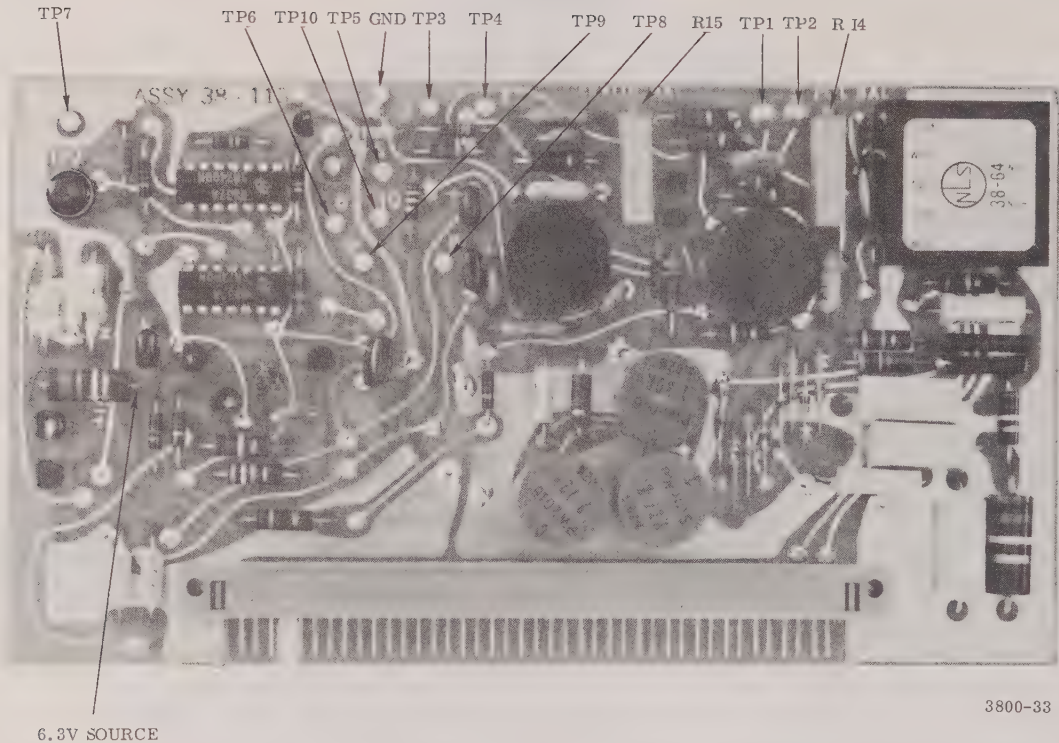

Figure 4-1. Amplifier and Logic Assembly Adjustments and Test Points
2. Place a voltmeter between 6.3V source (Figure 4-1) and signal LO input connector (black). Check to ensure that voltmeter indicates an input of 6.3 VDC $\pm 8\%$.
9. Set R14 and R15 fully counterclockwise (Figure 4-1).
11. Connect input leads of oscilloscope to TP2 of Amplifier and Logic Assembly, 38-113 (Figure 4-1), and black analog output terminal.
13. Change oscilloscope lead from TP2 to TP1 and adjust R14 (Figure 4-1) until oscilloscope shows the same DC level as observed in Step 12.
15. Change oscilloscope lead from TP4 to TP3 and adjust R15 (Figure 4-1) until oscilloscope shows the same DC level as observed in Step 14.